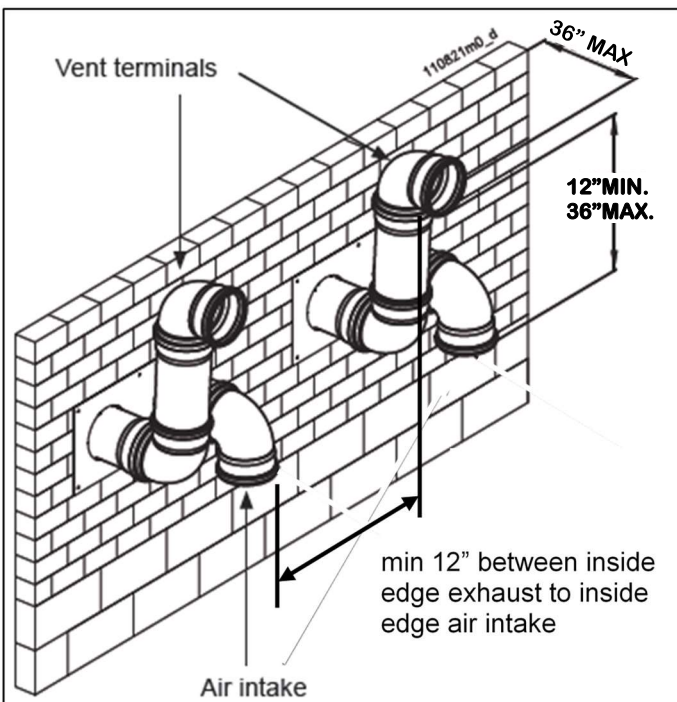

Figure 10.18
1. When terminating multiple boilers, terminate each vent/air connection as described in this manual (Figure 10.18).
2. Place wall penetrations to obtain minimum clearance of 12 inches (305 mm) between the inside edge of the exhaust vent and the inside edge of the air intake elbow, as shown in below Figure 10.18 for U.S. installations. For Canadian installations, provide clearances required by the latest edition of the CAN/CSA B149.1 Natural Gas and Propane Installation Code.
When two (2) or more direct vent appliances are vented near each other, each appliance must be individually vented. NEVER common vent or breach vent this appliance. When two (2) or more direct vent appliances are vented near each other, two (2) vent terminations should be installed as shown in figures 10.18 or 10.22. It is important that vent terminations be made as shown to avoid recirculation of flue gases.